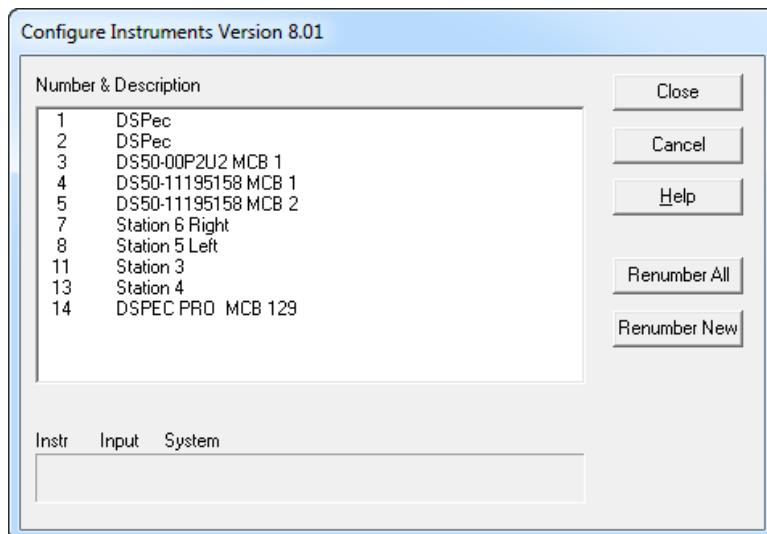

Figure 2. Detector Numbering and Descriptions.
- 3) To start the software, enter the letters `mcb` in the “*search programs and files*” box at the bottom of the Windows Start menu, then click the **MCB Configuration** search result; or open the Windows Start menu and click **GammaVision**, then **MCB Configuration**. The MCB Configuration program will locate all of the powered-on ORTEC Detectors on the local computer and the network, and display the list of instruments found (the *Master Instrument List*; Fig. 2). If you wish, you may enter customized instrument ID numbers and descriptions (Section 2.3.2). When you close the dialog, any changes you have made to an ID number or description will be written back to the corresponding Detector.
The filenames for EDF's **Gamma Total** effluent reports (Section 5.5.1.9) are based on a single-digit identifier for the MCBs used for data acquisition. When first setting up GammaVision, be sure to choose instrument **ID** numbers that each end with a unique digit, e.g., 0–9 (for instance, 901, 22, 13, 4, 375, and so on). Note that in Fig. 2, two of the instruments in the list share **1** as the final digit of their **ID** number, and two share **4** as the final digit. To avoid having two MCBs that generate reports with the same device identification number, two of these MCBs should ideally be reassigned ID numbers with unique final digits.